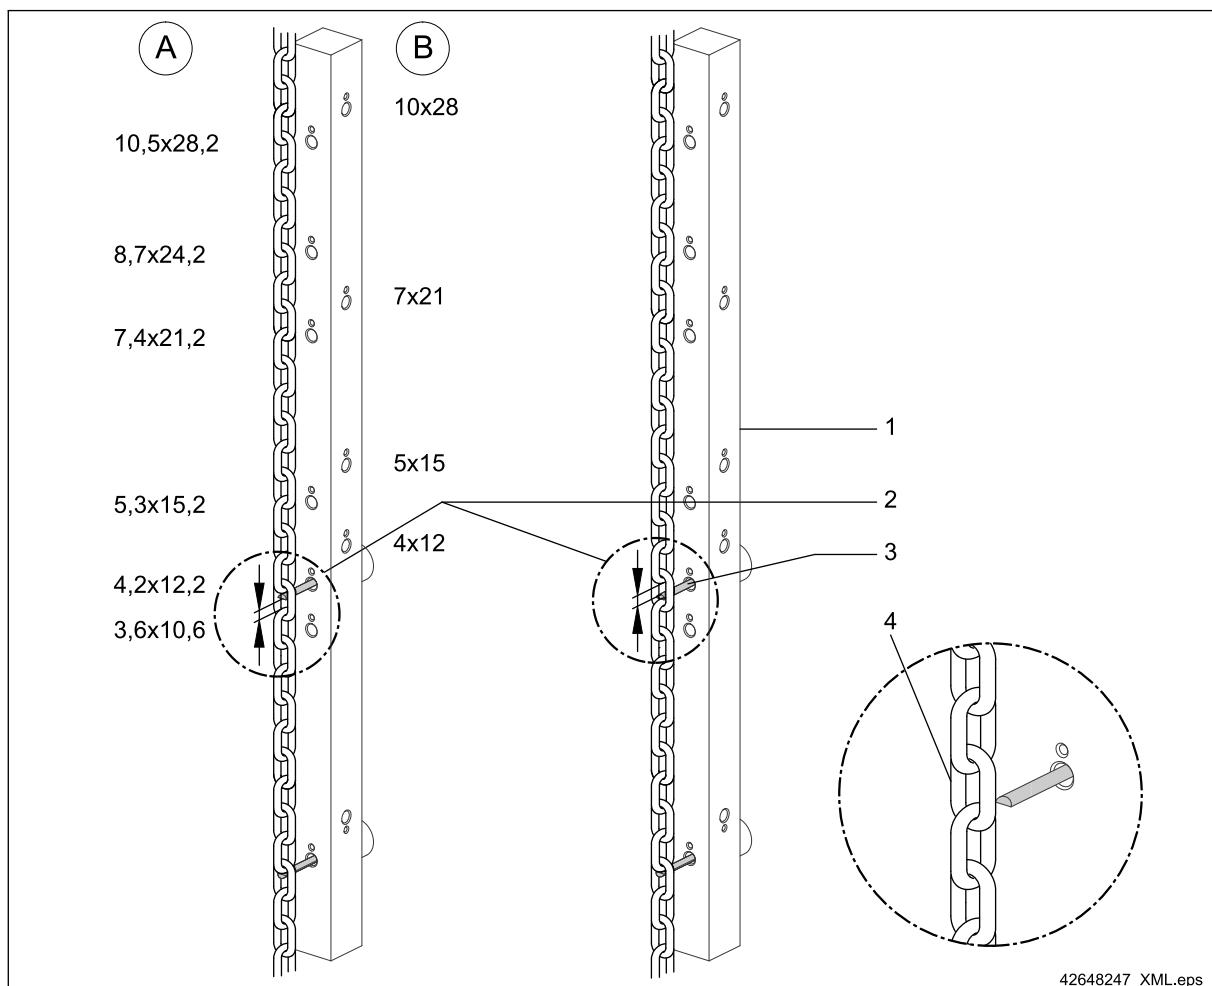

Fig. 46
- on 11 chain links  $\Rightarrow$  Fig. 46, Page 76.